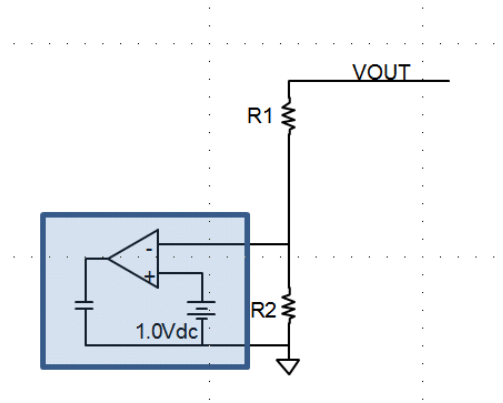

Figure 4 -External resistor divider network
The PI354X-00 family of Buck Regulators utilize an internal 1V reference. The output voltage setting is accomplished using external resistors as shown in Figure 4. Select R2 to be at or around 1k for best noise immunity. Use equations (1) and (2) to determine the proper value based on the desired output voltage.